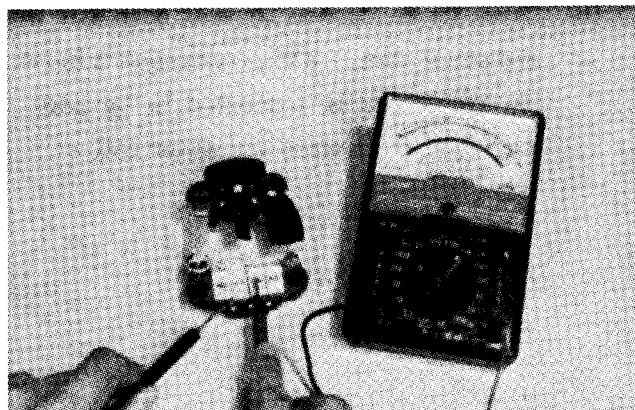

Figure 53
9. Check each diode in the rectifier for conduction (Fig. 53). Connect an ohm meter across the lead wire and diode case. The diode is normal if its resistance is large in one direction and small in the reverse direction. If there is equal resistance in both directions the diode is damaged. Replace the rectifier assembly if a diode is damaged.